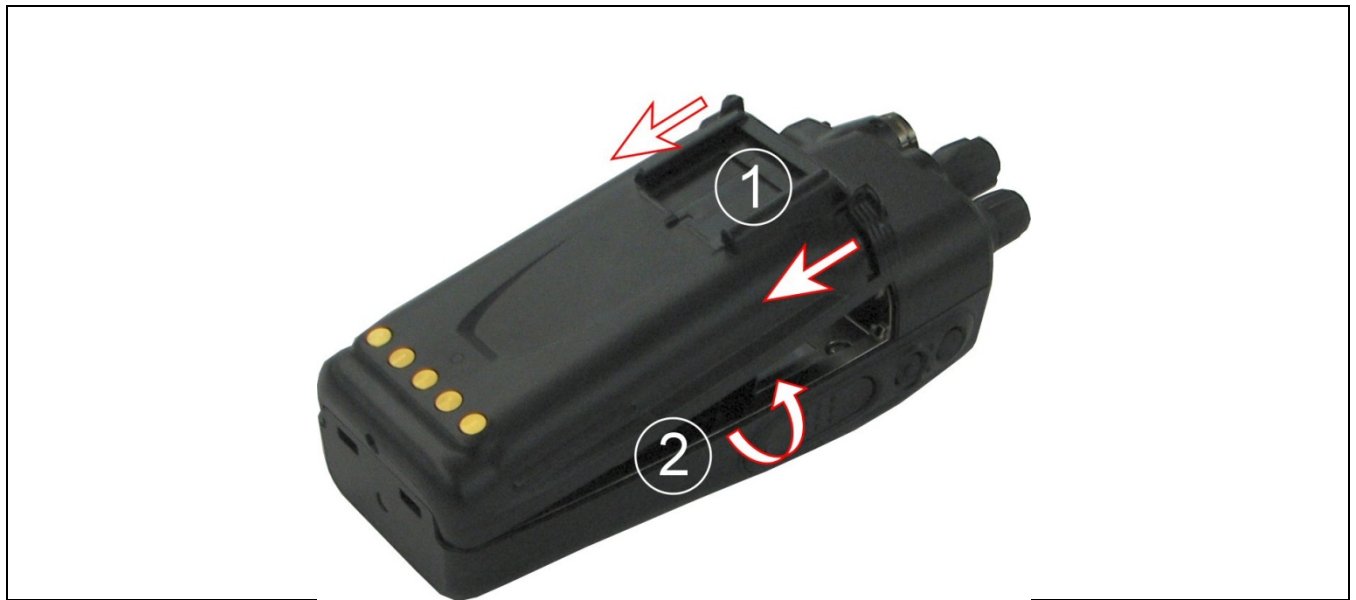

Figure 4-1: Removing the Battery Pack
1. Refer to Figure 4-1. Press or pull both latches on either side of the battery pack (1) toward the bottom of the radio simultaneously.
2. Pull the battery (2) away from the radio.